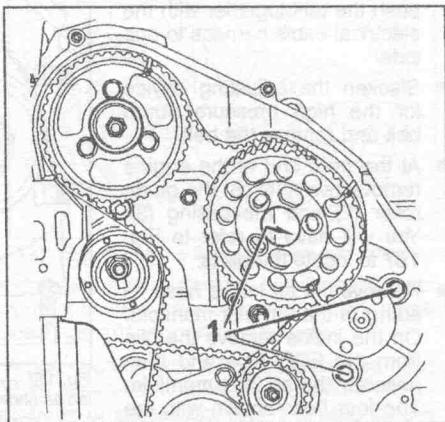

Fig. 1.85. — The 3 bolts secure the injection pump at the front. There is a further attachment at the rear of the pump.
- Refer to Fig. 1.85 and remove the pump securing screws (1).
- Fit the injection pump in position and tighten the pump securing screws (1) in Fig. 1.85 to 2.25 kgm (16.5 ft.lb.). The rach attachment of the pump is tightened to the same torque.